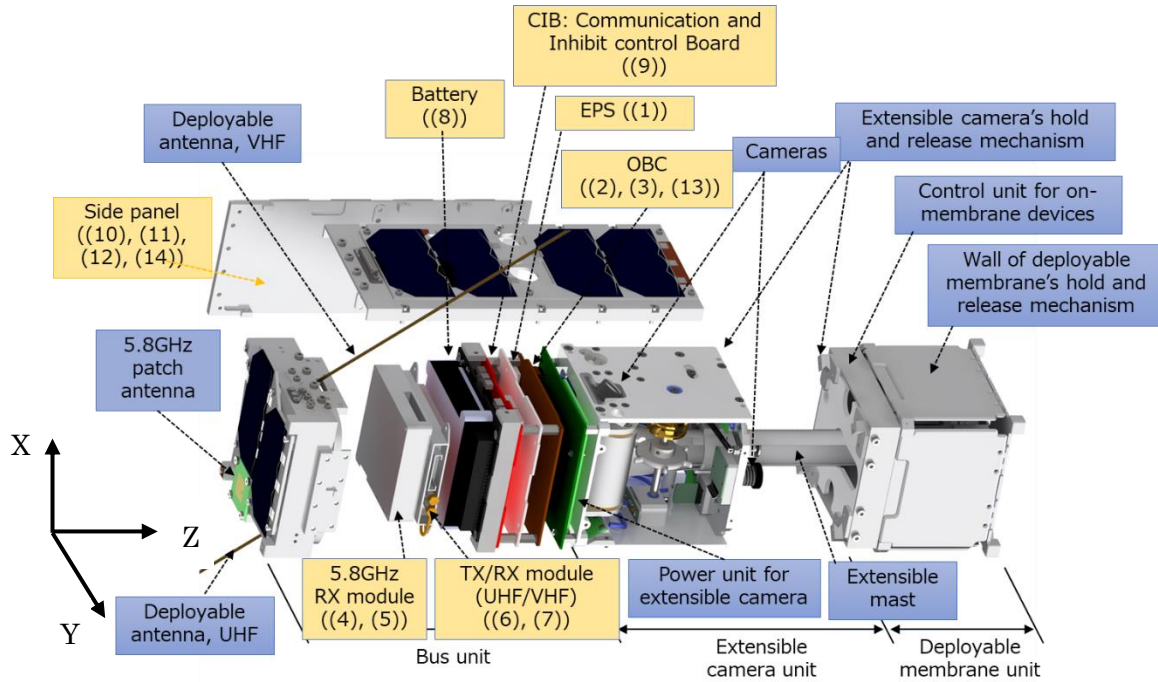

Figure 3 Location of temperature sensors
Figure 3 and Table 18 show the locations of temperature sensors (1)-(14).